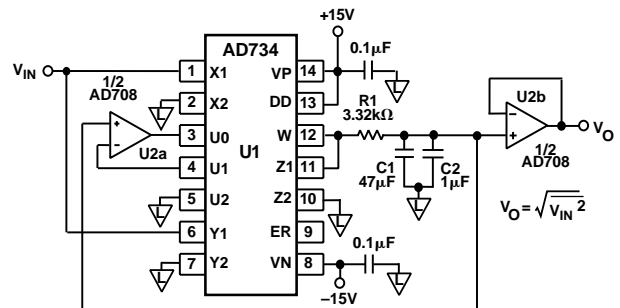

Figure 15. A 2-Chip, Wideband RMS-DC Converter
using its direct divide mode. Figure 15 shows the circuit.
In Figure 15's circuit, the AD734 squares the input signal, and its output (V_{IN}^2) is averaged by a low-pass filter that consists of R1 and C1 and has a corner frequency of 1 Hz. Because of the implicit feedback loop, this value is both the output value, V_{RMS} and the denominator in Equation (13). U2a and U2b, an AD708 dual dc precision op amp, serve as unity-gain buffers, supplying both the output voltage and driving the U interface.